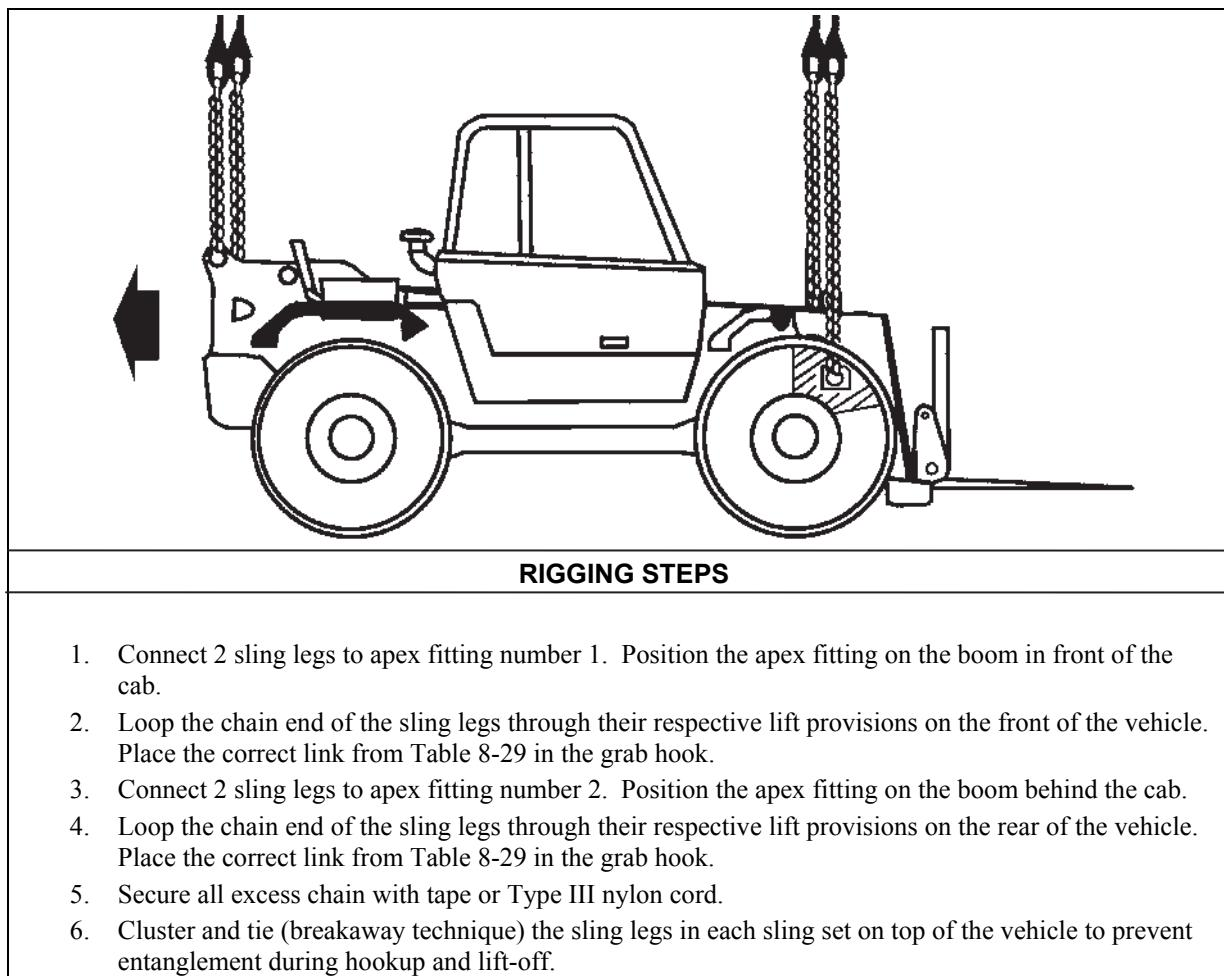

Figure 8-29. Light Rough Terrain Forklift
- **Rigging.** Rig the load according to the steps in Figure 8-29.